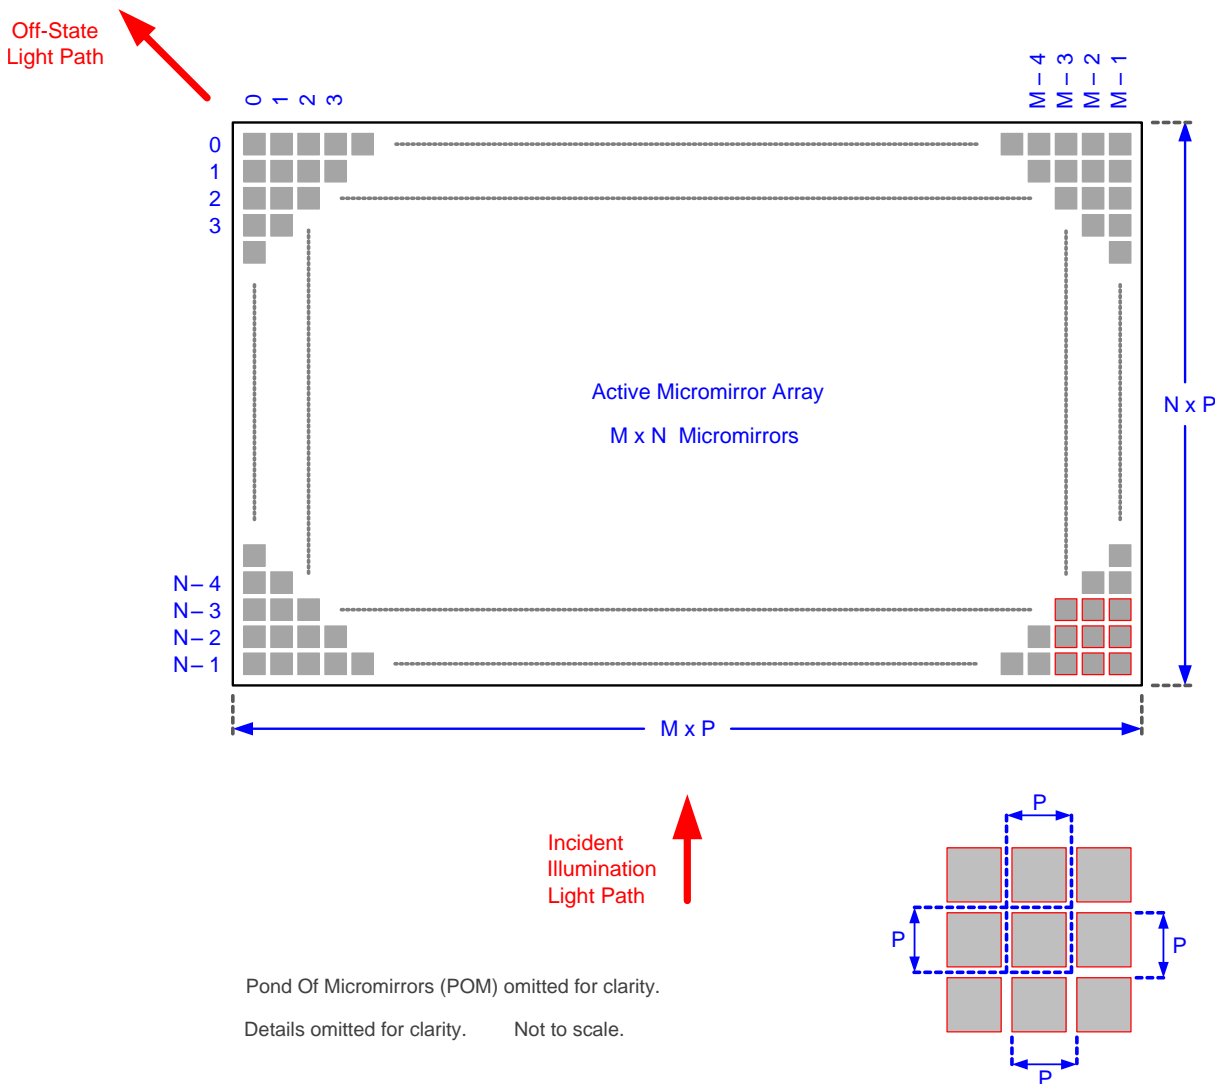

Figure 8. Micromirror Array Physical Characteristics
- (1) See Figure 8.
- (2) The fast switching speed of the DMD micromirrors combined with advanced DLP image processing algorithms enables each micromirror to display four distinct pixels on the screen during every frame, resulting in a full 3840 × 2160 pixel image being displayed.
- (3) The structure and qualities of the border around the active array includes a band of partially functional micromirrors referred to as the *Pond Of Micromirrors* (POM). These micromirrors are structurally and/or electrically prevented from tilting toward the bright or ON state but still require an electrical bias to tilt toward the OFF state.